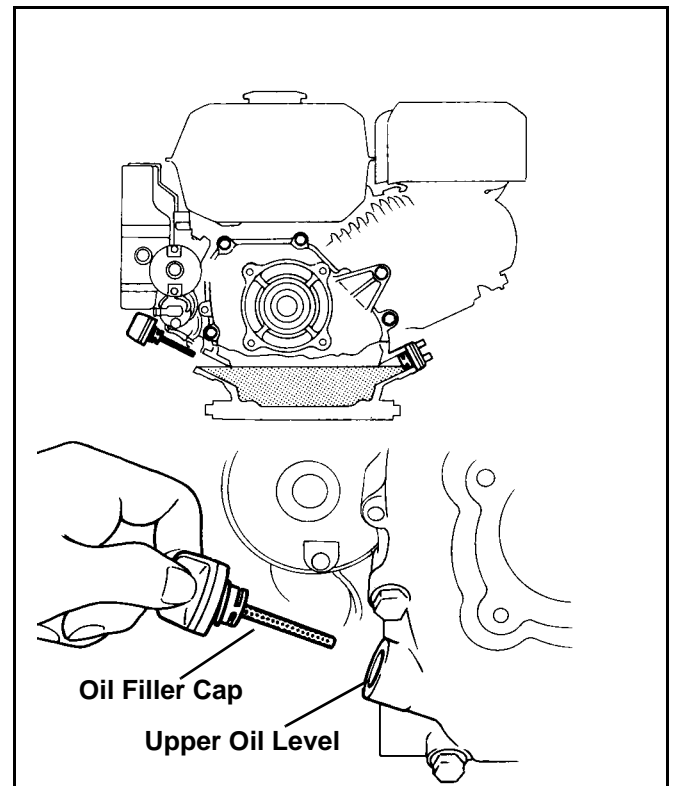

Figure 5A
6. Add engine oil until oil level is at full level. **See Figure 5A.**